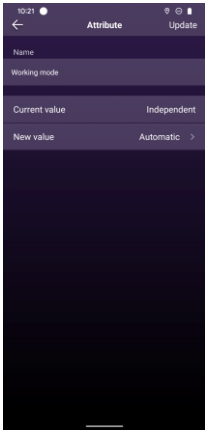
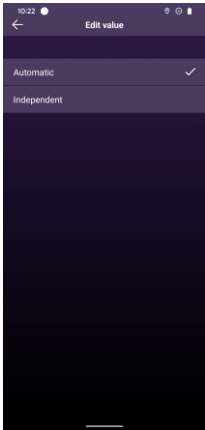

Figure 23
Figure 24
15. The attribute **“Working mode”** is to set the working mode of the device. Tap it to enter setting interface, **“Current value”** means current mode, **“New value”** is to set a new mode, available settings are **Automatic & Independent**, **Automatic** means the 0-10V dimming can be controlled by the motion sensor and light sensor, **Independent** means the 0-10V dimming can not be controlled by the motion sensor and light sensor, and can only be controlled by the 2.4GHz Mesh signal. factory default is **Automatic**. Once set a new value, tap **“Update”** button at upper right corner to save the setting (as shown in **Figure 23 & Figure 24**).